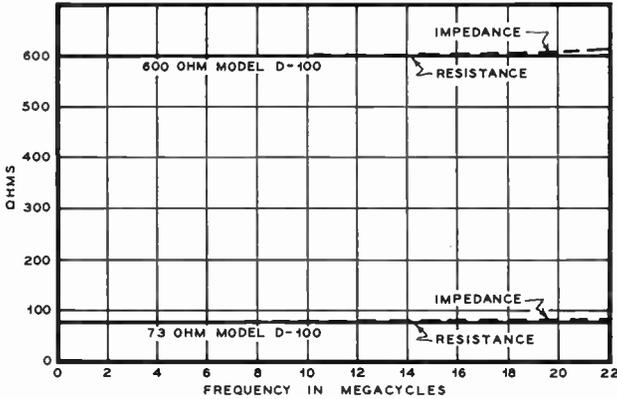
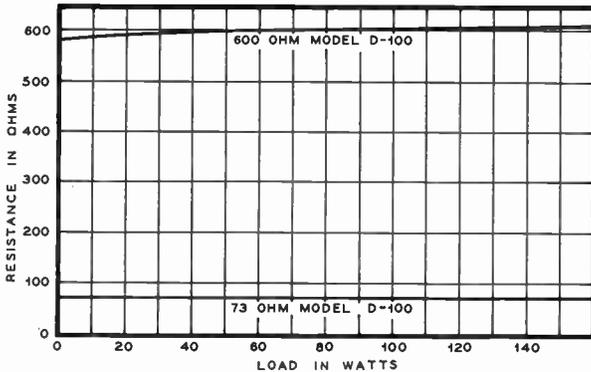

Fig. 1—R and Z Versus Frequency
Fig. 2—R Versus Watts Load
The curves in Figures 1 and 2 show the frequency and load characteristics of the Model D-100 and serve to indicate the marked superiority of the Ohmite Model D-100 to other forms of resistors heretofore used for high frequency work. The radio frequency resistance of a Model D-100, it can be noted, is practically constant at all frequencies up to and even beyond 15 megacycles. The impedance also rises only very slightly with increase in frequency, changing less than 10% at 15 megacycles. The curves in Figure 2 illustrate the slight change in resistance with load of the Model D-100. Contrast this with the lamp bulbs, which have been heretofore used as the best loads available for high radio frequency use, where the change in resistance from no load to full load amounts to approximately 12 times for a tungsten lamp and 2 times for a carbon lamp. The constant impedance and resistance of the Ohmite Model D-100 insures that the impedance match is maintained at all loads and that the r-f power can be simply calculated using Ohm's Law, knowing the current and the Dummy resistance.
10. To serve as a non-inductive, non-capacitive resistor of 100 watt rating in other r-f circuits. (See Figures 1 and 2 for characteristics.)